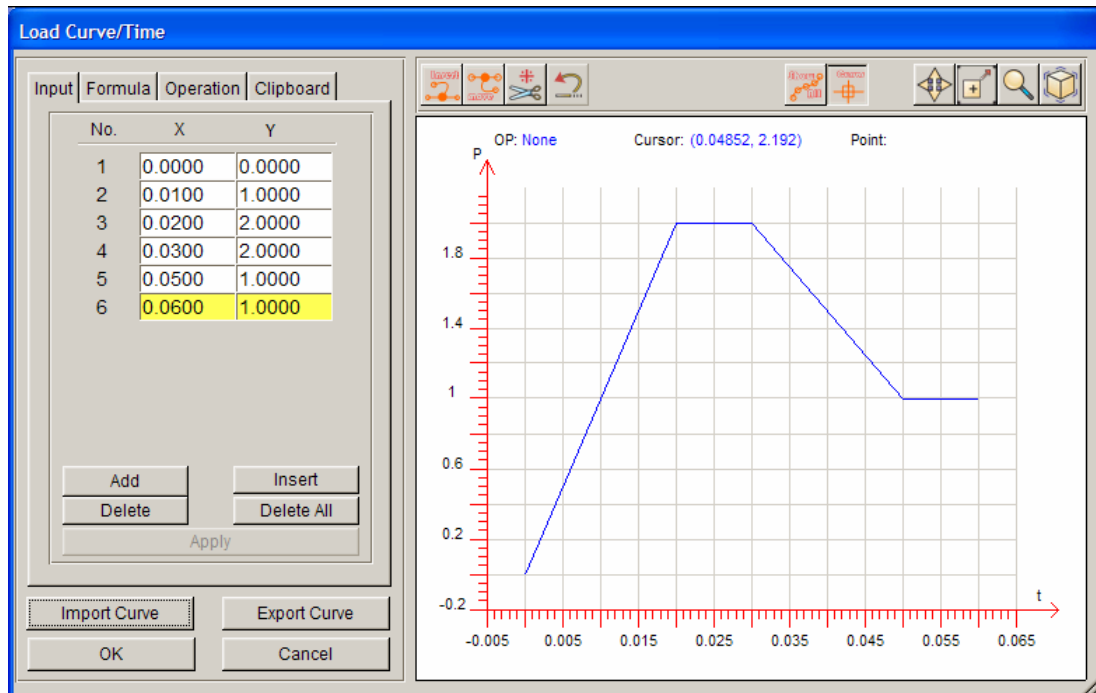

Figure 7.47 Internal pressure load curve definition
- Use functions provided in Input page to key in the pressure load curve illustrated in Figure 7.47.